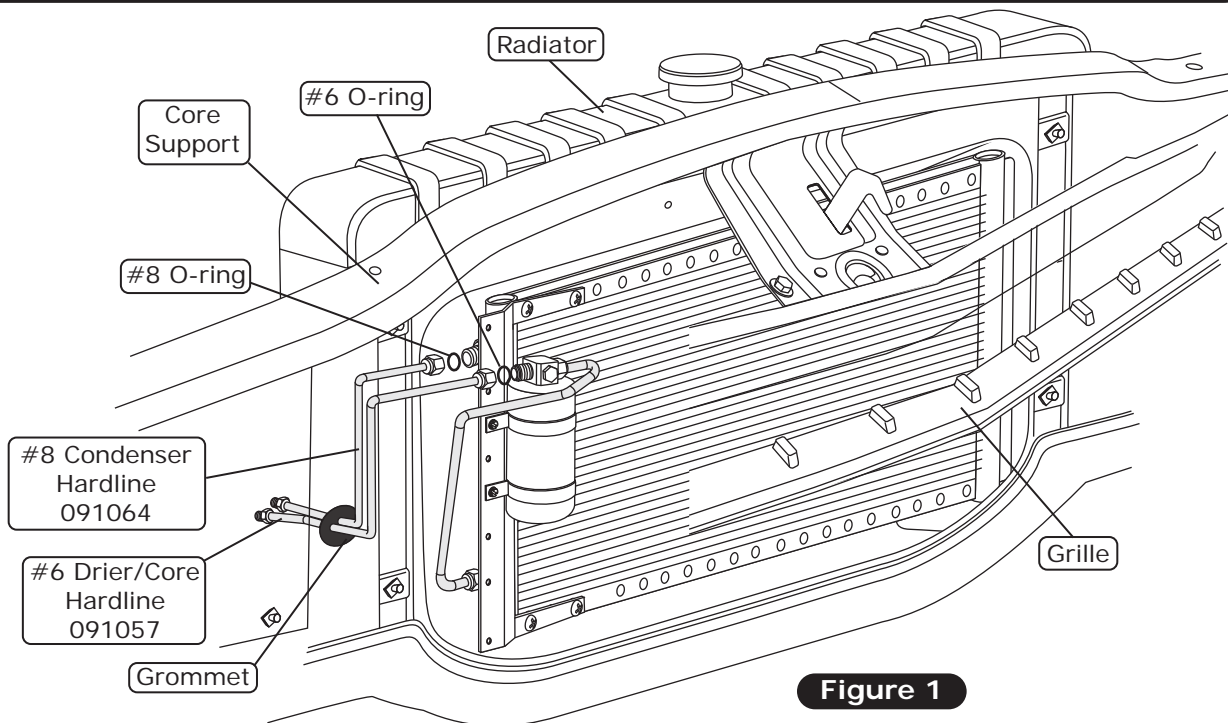

Figure 1
2. Lubricate a #6 O-ring and a #8 O-ring (See Lubricating O-rings, Page 9), and install the #6 drier/core hardline and the #8 condenser hardline as shown in Figure 1, below. Tighten fittings as shown in Lubricating O-rings, Page 9.